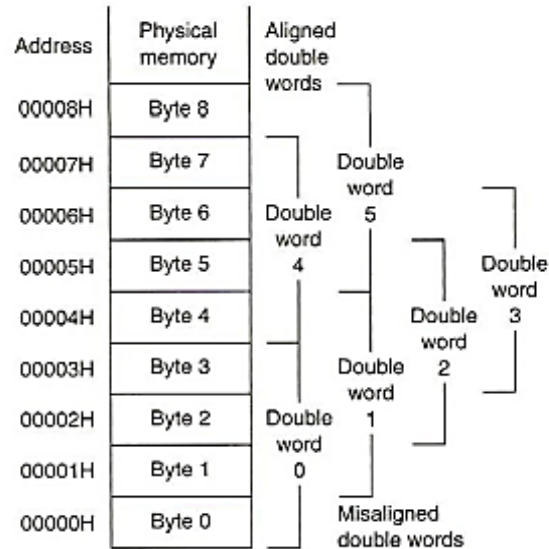

**Fig2:**Part of 1Mbyte memory
**Example 1:** For the 1Mbyte memory shown in Fig 2, storage location of address  $00009_{16}$  contains the value  $00000111_2 = 7_{16}$ , while the location of address  $00010_{16}$  contains the value  $01111101 = 7D_{16}$ . The 16-bit word **225A**16 is stored in the locations  $0000C_{16}$  to  $0000D_{16}$ .